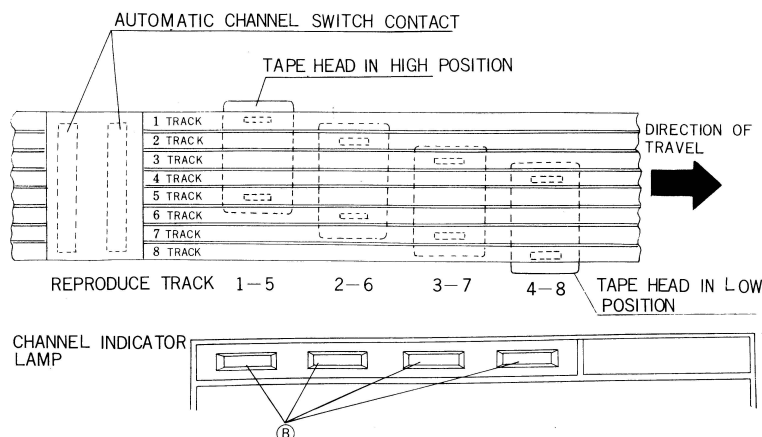

Fig. 3
The left channel indicator lamp ② lights to indicate that tracks 1 and 5 are being reproduced and the next lamp from the left lights to indicate that the tracks 2 and 6 are being reproduced. The channel indicator and head positions are as shown Fig. 3.